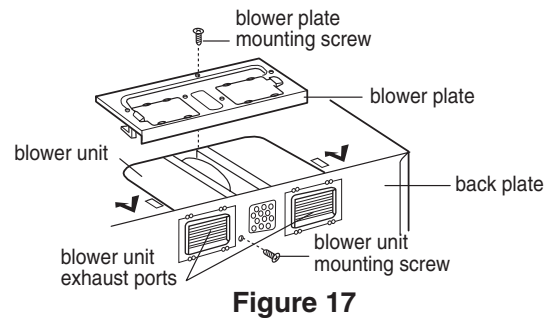

Figure 17
7. Reattach the blower plate to cabinet so the exhaust ports and blower plate opening are aligned. Attach with one blower unit mounting screw and then one blower plate mounting screw. See Figure 17.